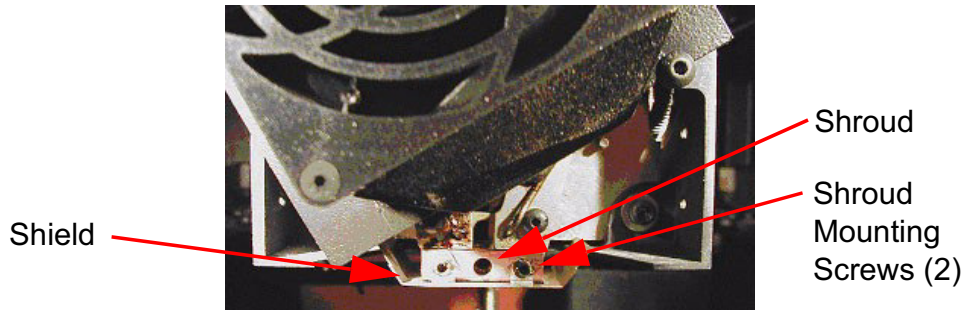

Figure 19: Shroud and shield location
5. Locate the shroud, the shroud-mounting screws, and shield, as shown in Figure 19.